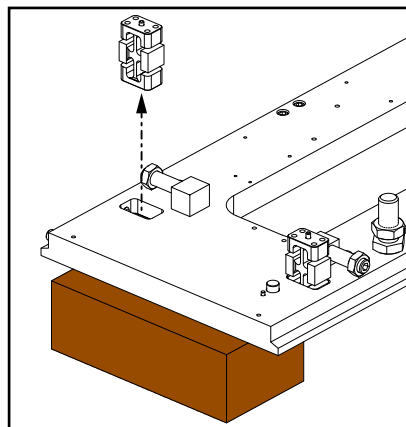

Figure 8-7. Flexure Removal
15. Remove flexures from the front plate (see Figure 8-7).